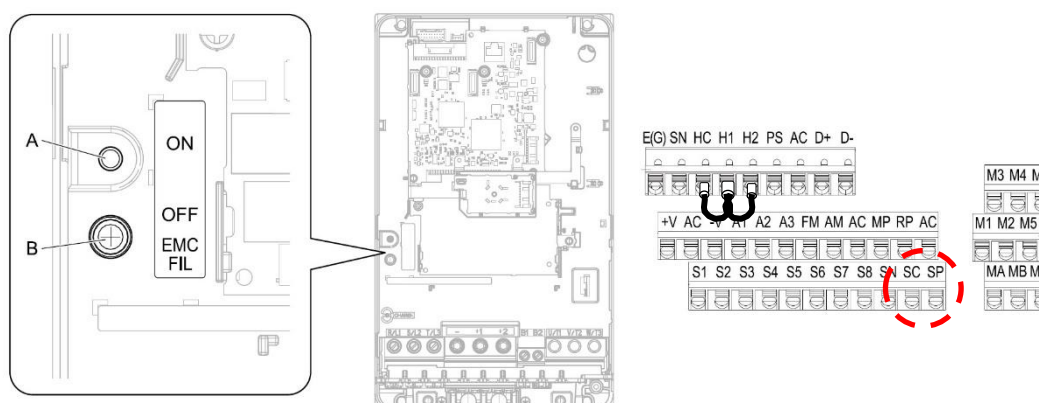

Figure 17: Enabling inbuilt EMC filter and terminal bridges.
Move the switch screw from position **B** to position **A** (in the hole) to turn ON the inbuilt EMC filter. If the EMC filter switch screw is lost, refer to GA700 Technical Manual pp.251 to find out the type of correct replacement screw (See Figure 17).
3.4.2 CHECKING TERMINAL BRIDGES: Make sure that the connection bridge between terminal SP & SC is removed and the connection bridges amongst HC-H1-H2 remains intact (see Figure 17).